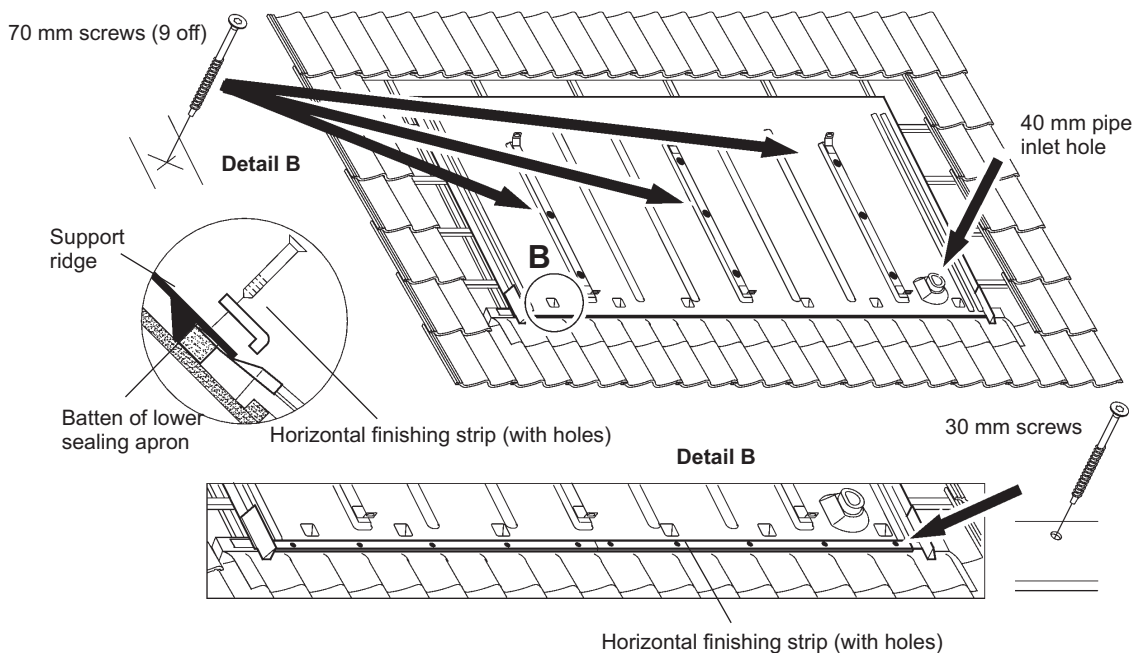

**Fig. 16 - Sealing landscape flashing sheets together**
Position the righthand flashing sheet so that it overlaps the the lefthand one to form a seal, as shown in Fig. 16. Mark the position of the pipe inlet hole required and carefully cut the underlay or board for the pipes and sensor cable (only use the sensor cable from the collector in the most shaded position).
Seal and secure the sheets together a vertical sealing strip (kit item 9) and four 30 mm screws (kit item 13) into the battens as shown in Fig. 16). If required a bead of silicone sealant may be applied before overlapping the sheets.